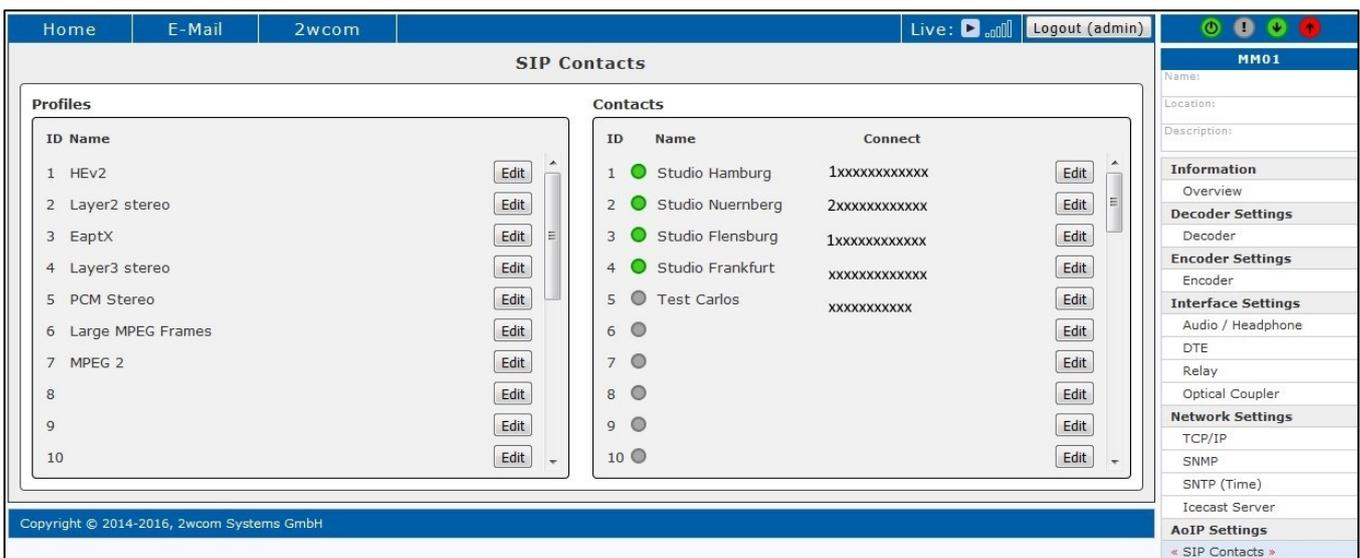

Figure 11: Preconfiguration of coding formats and SIP contacts
- In the left block "Profiles" (see Figure 11) click the "Edit" button to create and to configure a coding profile. The window *Edit Profile* appears:
- In the right block "Contacts" in the same menu (see Figure 11) click the "Edit" button to create and to configure a SIP contact. The window *Edit Contact* appears: